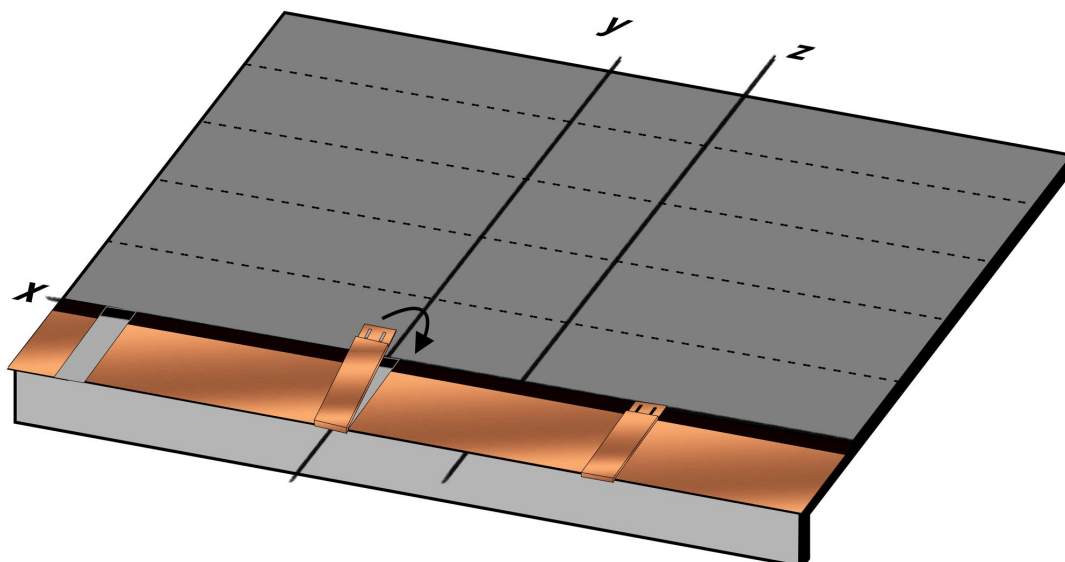

Fig. 21 - Compact Clip Installation
- Insert the Compact Clip, aligning the central notch with the joint between two consecutive shingles. The Compact Clip will be fixed in position, adhering to the exposed portion of the butyl tape, Fig. 21.